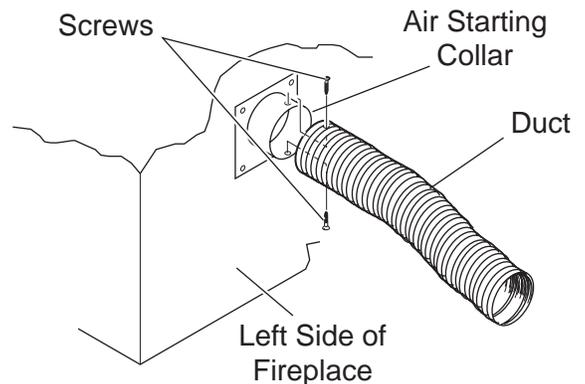

Figure 27 - Attaching Outside Duct to Starting Collar
4. Attach outside duct to starting collar with duct clamp or screws. *See Figure 27.*
6. Select and cut a piece of duct long enough to attach to the fireplace and stick out at least 3" beyond the face of the wall to which the AK-4 inlet air vent will be attached. *See Figure 27.*